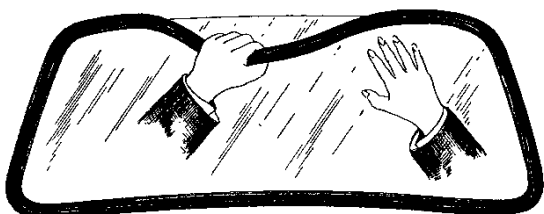

Fig. 31. Removing the glass.
3. Grasp the rubber strip as shown in Fig. 31 and pull it off.